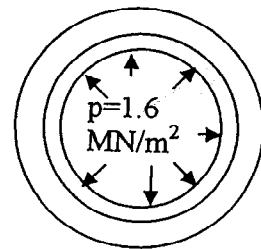

Fig. Q3
Q3. A composite hoop shown in Fig. Q3 consists of a cast iron (CI) hoop of 200 mm internal radius and 4 mm thickness, and an aluminum (Al) hoop of 204 mm internal radius and 8 mm radial thickness. Both hoops are 8 mm thick normal to the plane of the hoop. If a radial pressure of 1.6 MN/m2 is put in the cast iron hoop, estimate the tangential forces in both the hoops.  $E_{CI} = 115$  GN/m2,  $E_{Al} = 70$  GN/m2.